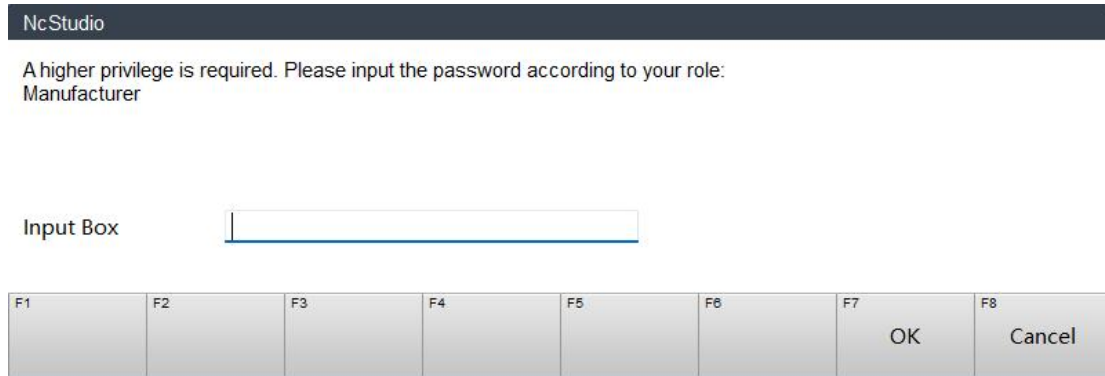

Figure 7.2.2 Enter Password
(2) A password input dialog box will pop up. As shown in Figure 7.2.2, enter the password "123456".